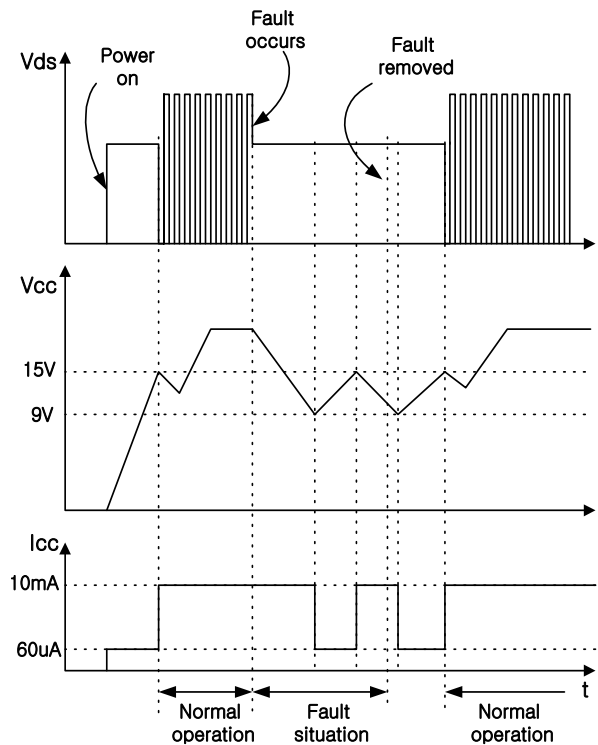

Figure 3. Auto restart operation after protection
3. Protection Circuit : Besides pulse-by-pulse current limit, the FS6X1220R has 3 self protection functions; over load protection (OLP), over voltage protection (OVP) and thermal shutdown (TSD). Because these protection circuits are fully integrated into the IC without external components, the reliability can be improved. In the event of these fault conditions, FS6X1220R enters into auto-restart operation. Once the fault condition occurs, switching operation is terminated and MOSFET remains off, which causes V_{cc} to be reduced. When V_{cc} reaches 9V, the protection is reset and the supply current reduces to 60 μ A. Then, V_{cc} begin to increase with the current provided through the start-up resistor. When V_{cc} reaches 15V, FS6X1220R resumes its normal operation if the fault condition is removed. In this manner, the auto-restart alternately enables and disables the switching of the power MOSFET until the fault condition is eliminated as illustrated in figure 3.